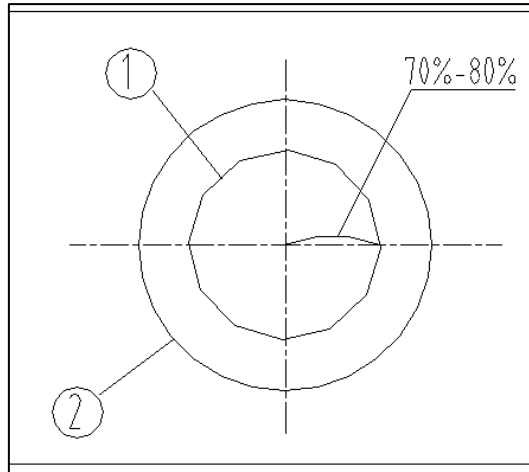
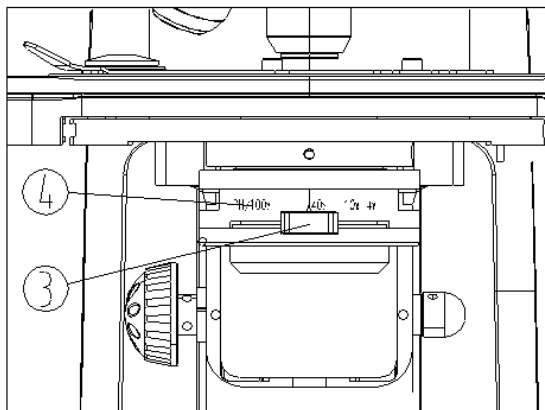

Fig. 13
Fig. 14
As specimen contrast is usually low, it is recommended to adjust the condenser aperture diaphragm to be 70%-80% of the N.A. of objective. Rotate the aperture diaphragm adjusting lever ③ (Fig. 14). Remove an eyepiece to observe the aperture size down in the eyetube (Fig. 13). Adjust the aperture diaphragm adjusting lever ③ until the aperture ① (opening; Fig. 13) is approximately 70-80% of the entire field of view of the objective ②. The aperture should be opened more for objectives with higher N.A. and closed more for objectives with lower N.A.